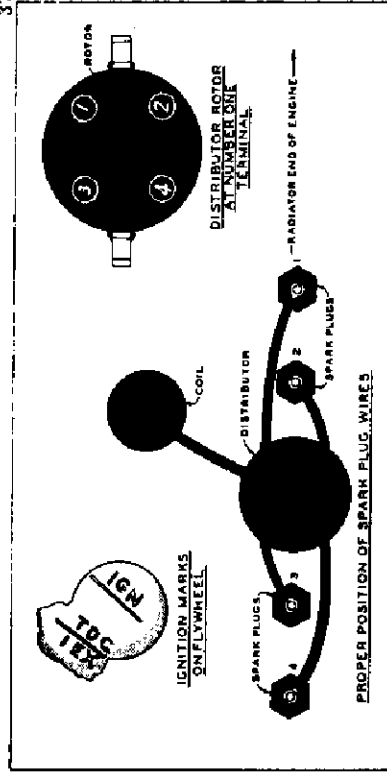

FIG. 11 - IGNITION TIMING
**IGNITION TIMING.** - See Fig. 11. Set the distributor contact points to 0.020" gap at full separation. There are stamped markings on the flywheel which can be seen by removing the small flywheel inspection hole cover on the right side of the engine. Crank the engine over with the hand crank until the No. 1 piston is coming up on the compression stroke. Slowly crank the engine until the flywheel mark IGN centers in the inspection hole. At this point, the distributor rotor should point to the distributor cap tower for the No. 1 spark plug wire, and the distributor points should just separate. If the rotor points to the tower for the No. 4 spark plug wire, it will be necessary to remove the distributor, lift the drive shaft in the cylinder head and turn it one half turn. Start the plant and allow it to reach operating temperature. Test the spark advance by applying a full electrical load. Slow the engine by pulling on the governor arm, then release and allow the engine to suddenly accelerate. There should be one or two "pings" or detonation knocks. If no ping is heard, advance the timing. If a continuous ping is present, retard the timing. Advance or retard the spark timing as necessary by loosening the distributor clamp and turning the distributor body slightly clockwise to advance, or counterclockwise to retard. Retighten the clamp screw. Keep the spark advanced as far as possible without causing a "ping", or detonation under normal running conditions.